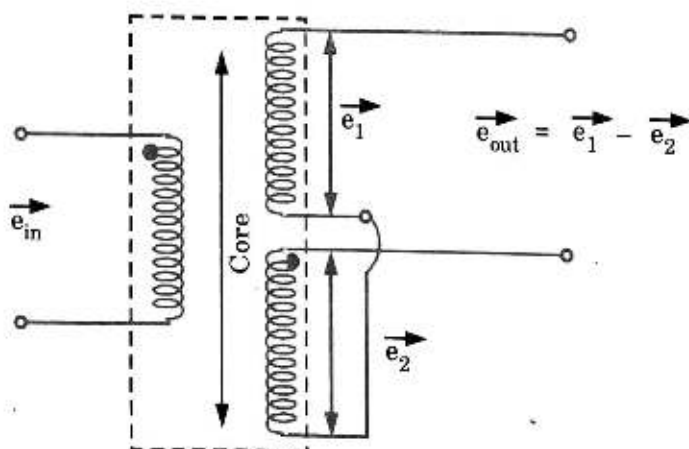

Fig. 5.10.1.
7. The both the secondary windings are connected in such a way that resulted output is the difference between the voltages of two windings as shown in Fig. 5.10.1.